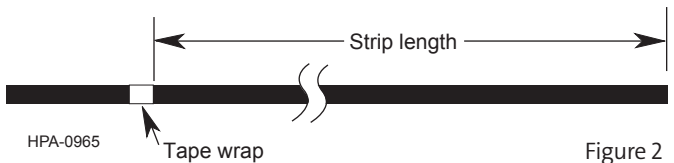

Figure 2
Step 1: Determine the proper sheath removal length for the hardware being used. Mark a point at this distance from the end of the cable with a wrap of tape (Figure 2).